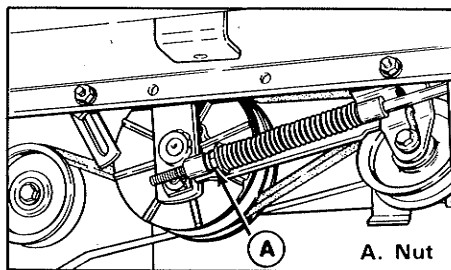

Figure 27. Adjustment Nut
10. Measure the distance from the pedal shaft to the forward edge of the footrest as shown in figure 26. If it measures 5-1/2 inches (140 mm), go on to step 11. If not, tighten the nut (A, figure 27) toward the spring to increase the measurement or loosen the nut to decrease the measurement. Recheck the measurement and adjust the nut as necessary to achieve the correct measurement.